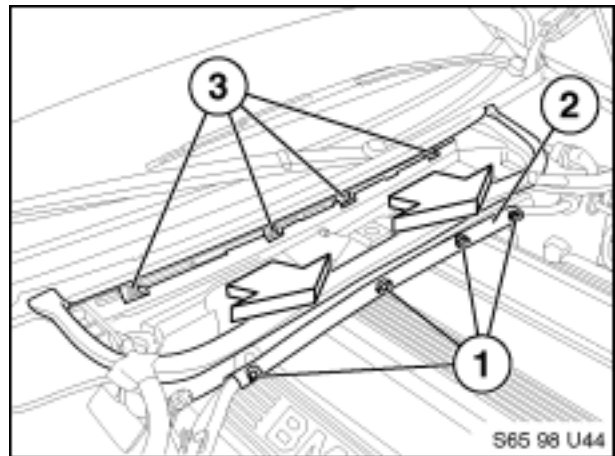

Figure 2
1.4 See Figure 2. Carefully pry up on the four upper retainers (1) and remove cable channel cover (2) from the cable channel.
1.6 See Figure 2. Loosen the four 30 Torx® head captive bolts (3) and remove cowl panel.